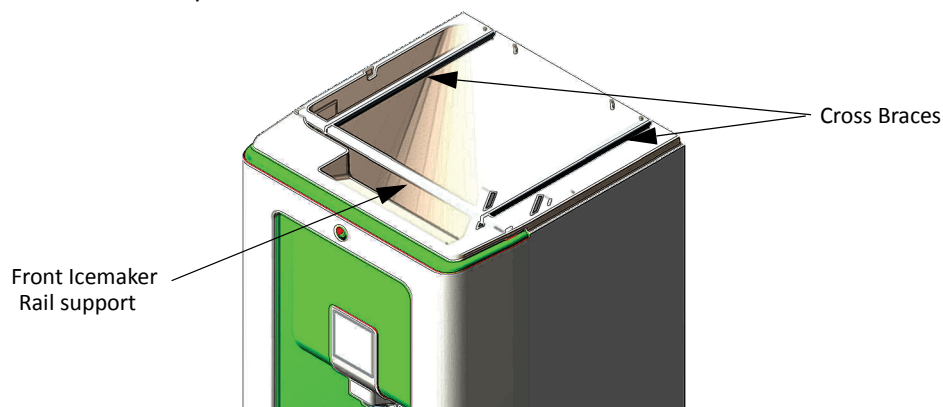

Figure 2.
2. Place icemaker rail supports into the pockets in the ice bin as shown in Figure 2.